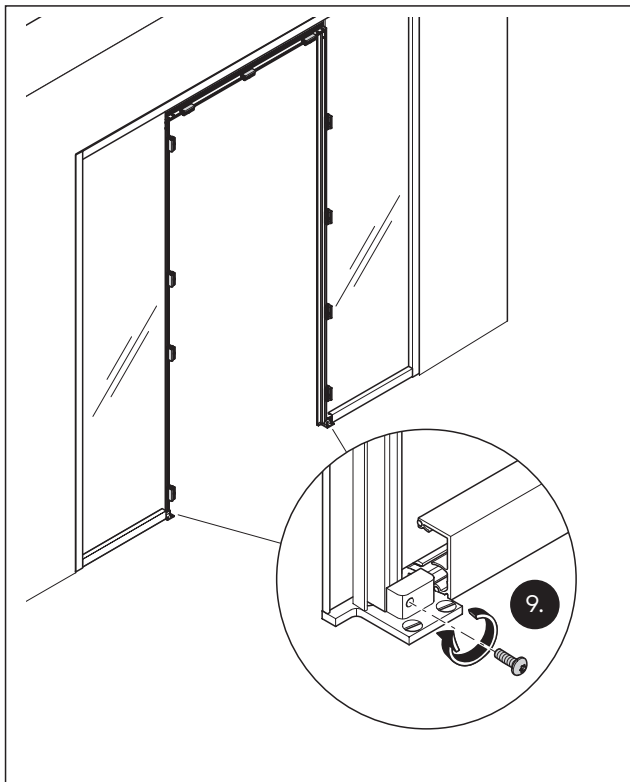

Fig. 34 Connect the base profile for the door frame with the door frame positioners
9. Connect the door frame with the door frame positioners (Fig. 34).